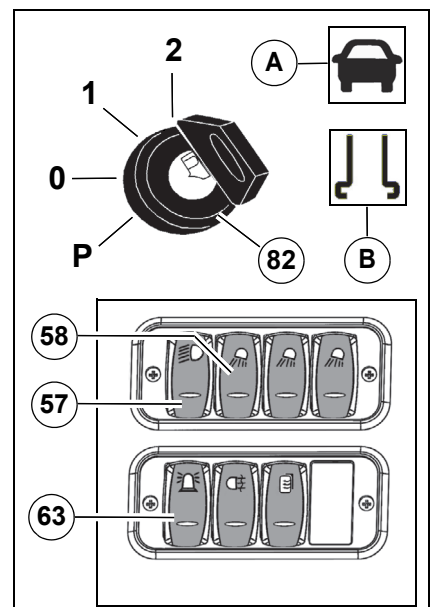

Fig. 134:
5. Drive to the work site. The transport mode information symbol **Fig. 134-B** appears in the multifunction display.